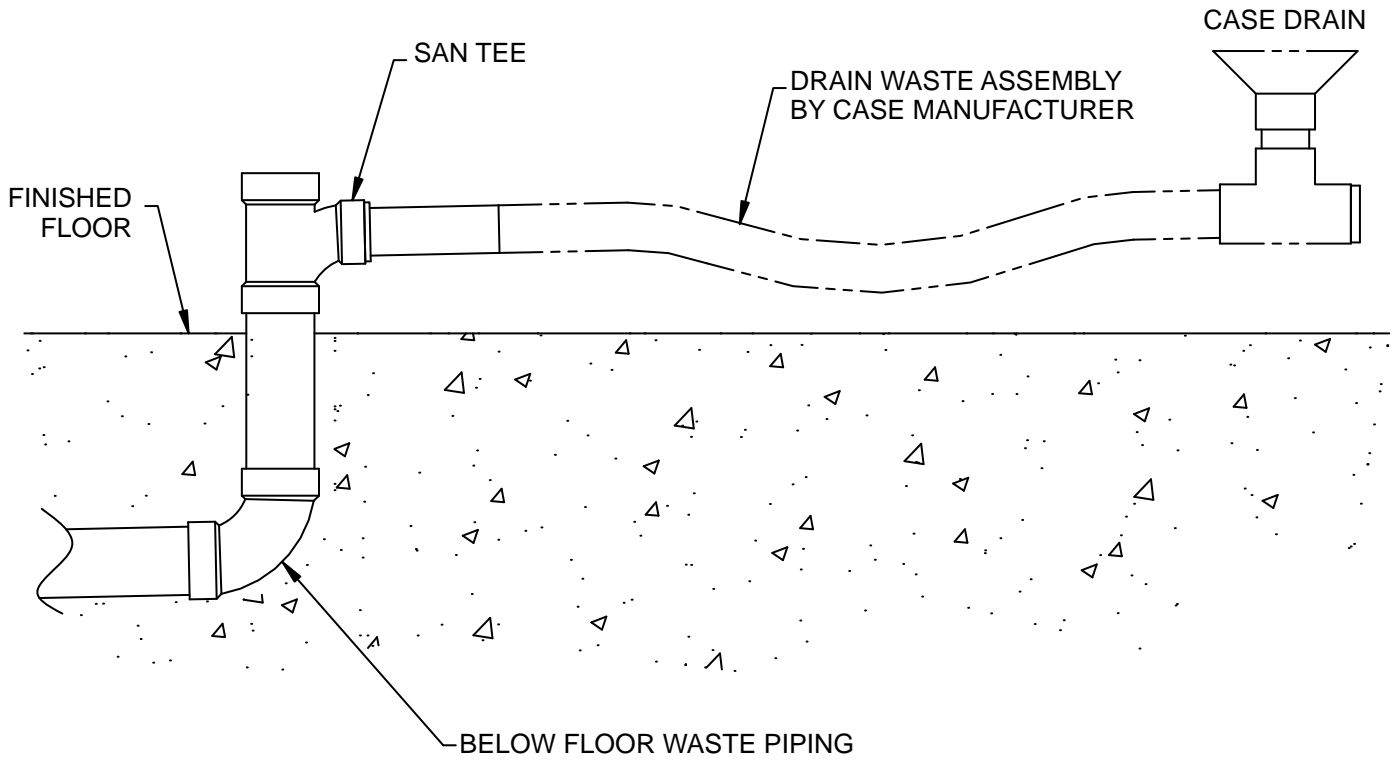
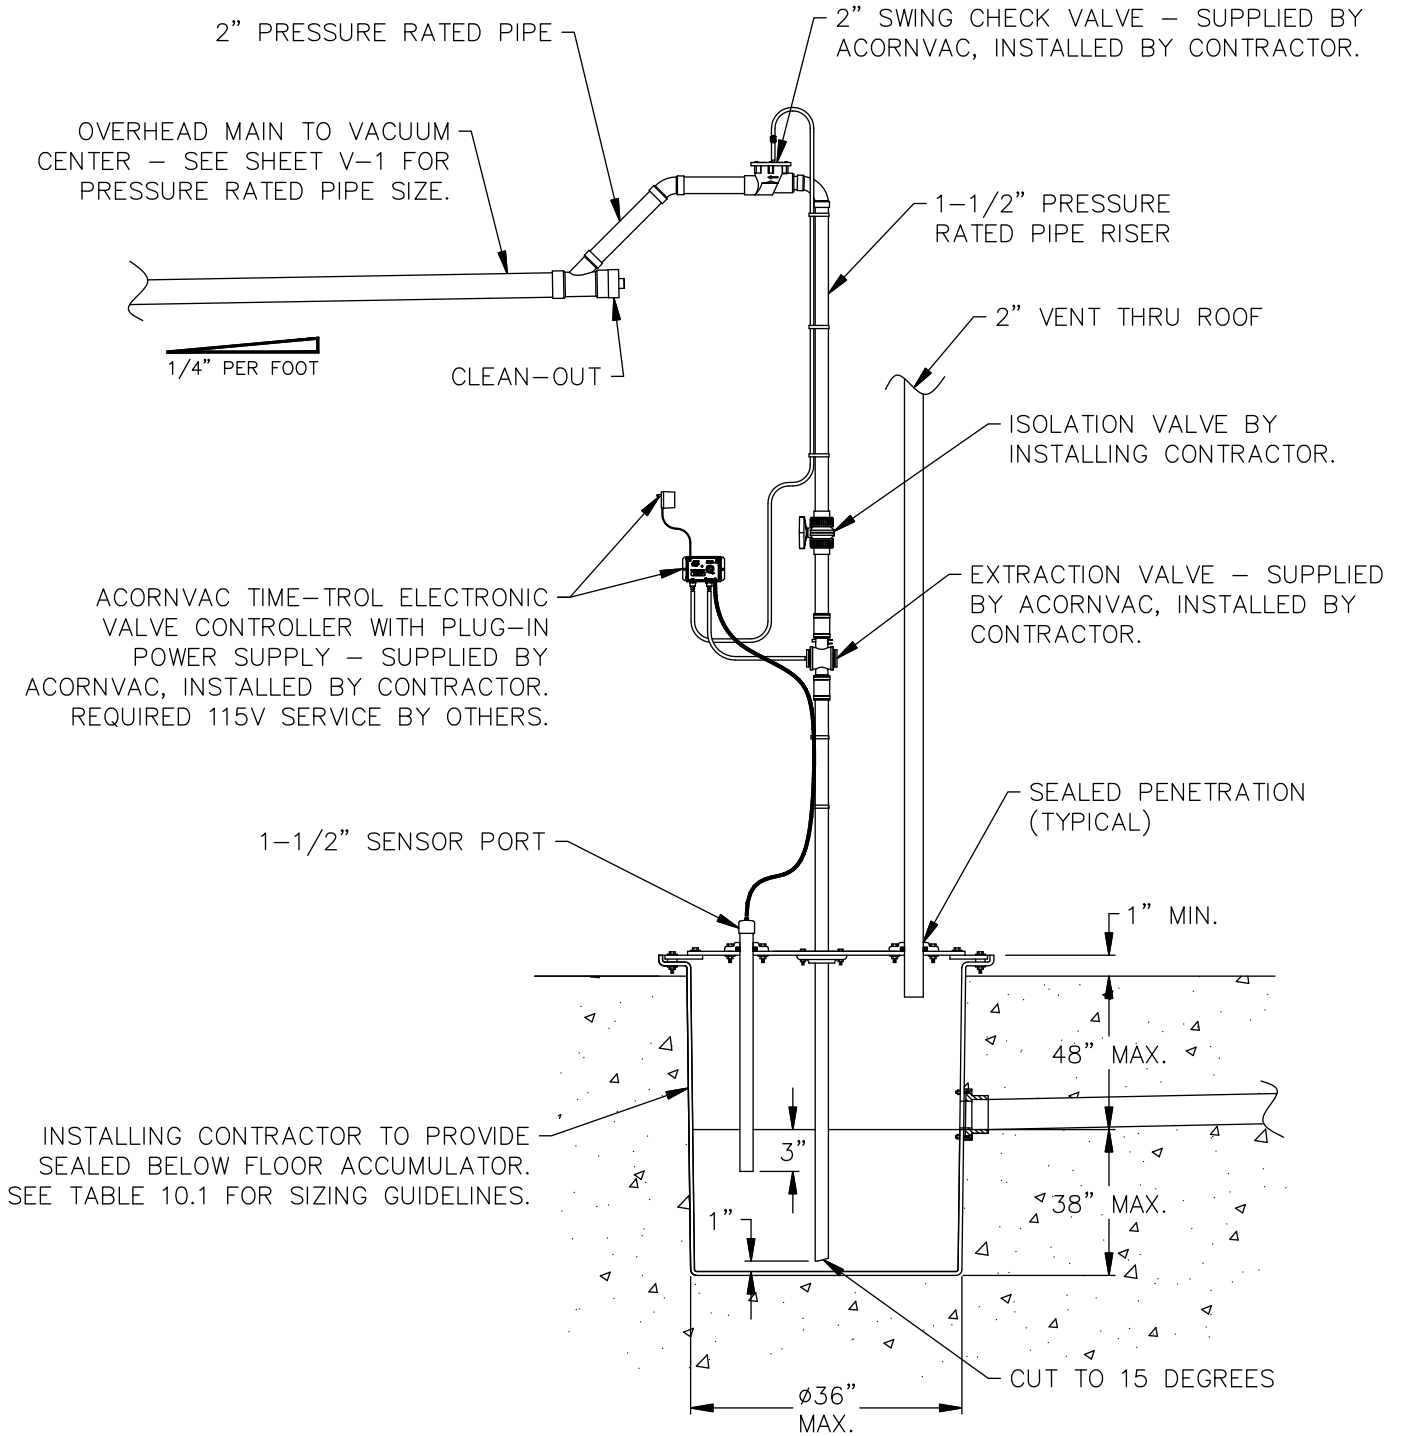

FIG. 28
FIG. 29
Figure 27 illustrates a typical fixture layout with multiple condensate or grey water fixtures attached to an underground piping network which constitutes the branch portion of the accumulator assembly. Figure 28 illustrates how the fixtures are typically attached to the underground piping and Figure 29 describes a typical accumulator arrangement. Sizing instructions and criteria for the sump is provided in Table 10.1.
5. It is acceptable to use a prefabricated sump of a larger diameter than the minimum stipulated in this table so long as the distance from the bottom of the sump to the invert of its lowest inlet is not less than 4" nor more than 38", the distance from the finished floor to the lowest invert is not more than 48", and the diameter is not more than 36" as shown in Figure 29. If these dimensional criteria are not suitable for your application, please contact Acorn Vac for assistance.